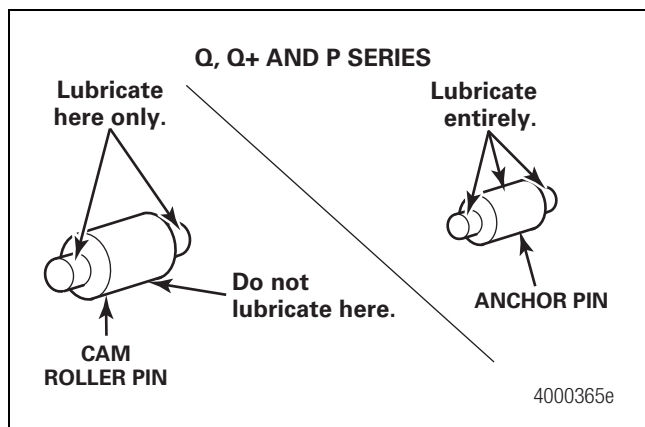

Figure 5.23
1. Lubricate the shoe rollers and anchor pins as shown in Figure 5.23. Use only Meritor-approved grease. Refer to Section 7 for approved grease specifications.
- **For the 16.5X7 P Series brake shoe:** After bushing installation, if necessary, ream the inside diameter (ID) of the bushing to 1.250-1.257-inch (31.75-31.93 mm) diameter (maximum).
- **For the 16.5X6 Cast+ or 16.5X8.62 Cast+ brake shoes:** After bushing installation, if necessary, ream the inside diameter (ID) of the bushing to 1.254-1.257-inch (31.85-31.93 mm) diameter (maximum).